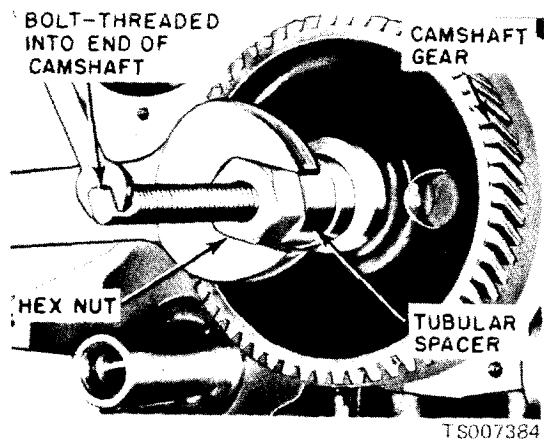

Figure 6-55. Installing Camshaft Gear.
(3) Torque the thrust plate attaching screws to specifications (see table 6-3).
(4) Position the camshaft gear on the camshaft. Align the timing marks on the timing gears as shown in figure 6-36. Install the camshaft gear with the tool shown in figure 6-55. Be sure the gear and spacer are tight against the shoulder on the camshaft.